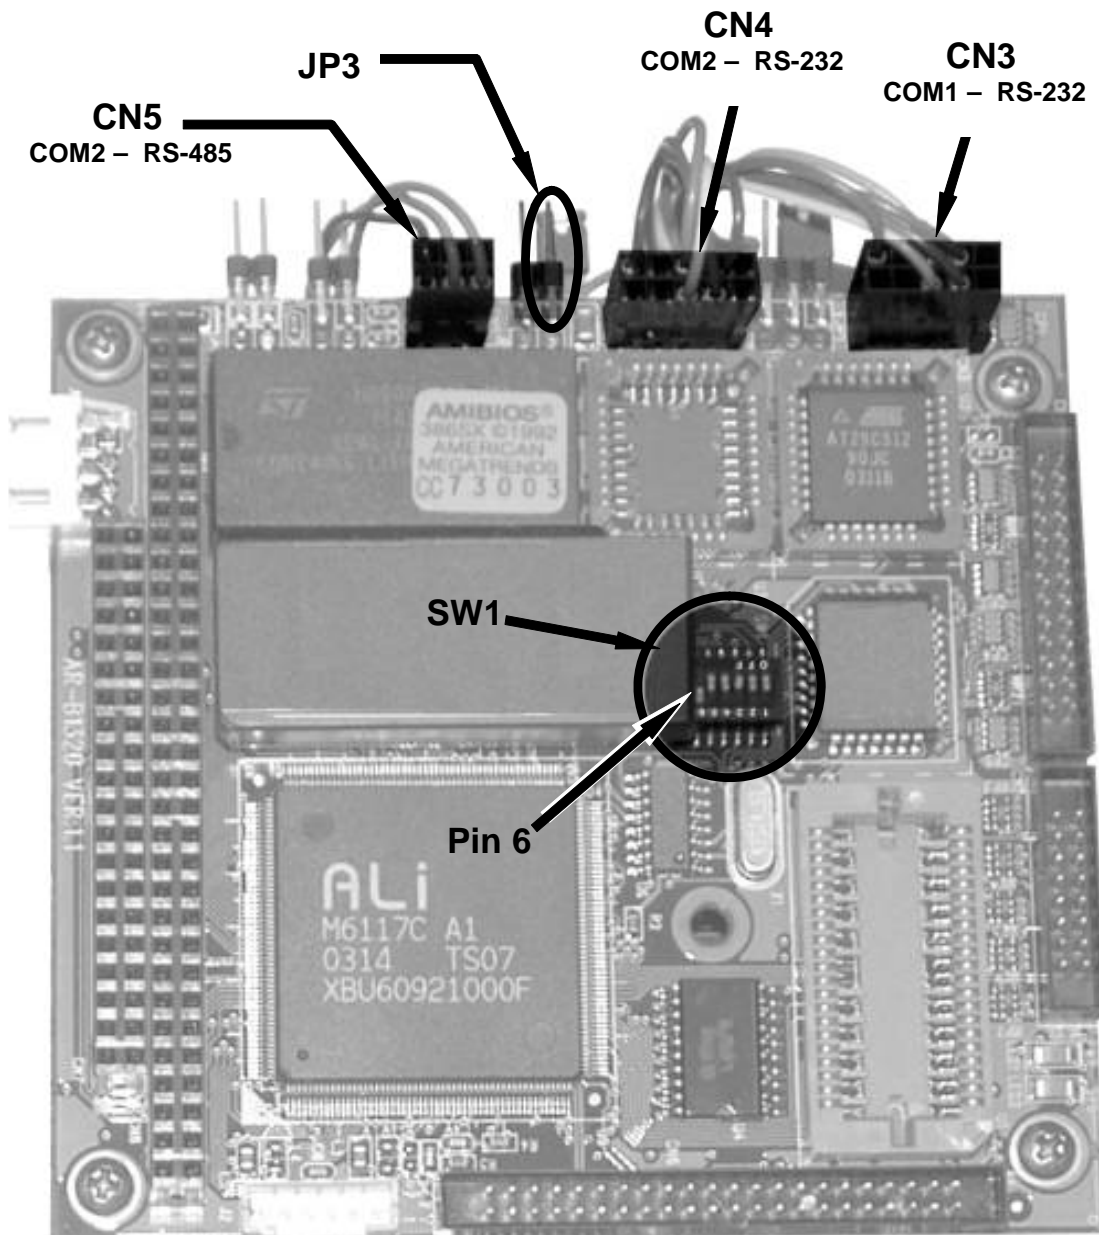

Figure 6-10: CPU card Locations of RS-232/486 Switches, Connectors and Jumpers
- To reconfigure COM2 as an RS-285 port set switch 6 of SW1 to the ON position (see Figure 6-10).
- The RS-485 port can be configured with or without a 150 Ω termination resistor. To include the resistor, install jumper at position JP3 on the CPU board (see Figure 6-10). To configure COM2 as an un-terminated RS-485 port leave JP3 open.
The RS-232 multidrop consists of a printed circuit assembly that plugs onto the CN3, CN4, and CN5 connectors of the CPU card (see Figures 6-10 and 6-13) and the cabling to connect it to the analyzer's motherboard. This PCA includes all circuitry required to enable your analyzer for multidrop operation. It converts the instrument's COM1 port to multidrop configuration allowing up to eight analyzers to be connected the same I/O port of the host computer.